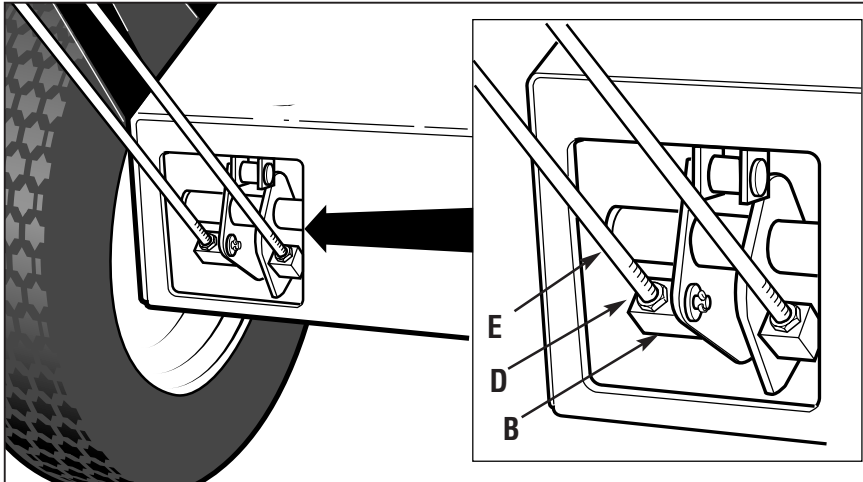

Figure 5-12: Wheel drive belt adjustment.
3. Loosen jam nut (D, Figure 5-12).
4. Thread rod (E, Figure 5-12) one or two turns clockwise for more tension or counterclockwise for less tension.
6. Retest wheel traction. Repeat adjustment procedure, if necessary. Most comfortable operation will be obtained when the adjustment allows the lever to just make contact with the handgrip as sufficient wheel traction is achieved. When adjustment is complete, tighten jam nut (D) firmly against block (B).